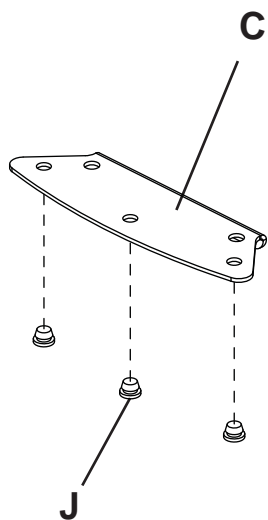

Figure 2.1
- 1** Attach vertical tube (B) to support base (H) using one plastic bushing (AA), one M5 x 55 mm socket screw (R), and M5 nut (S) as shown in detail 1. Tighten M5 x 55 mm socket pin screw (R) using 4 mm allen wrench (X).
- 2** Press three button bumpers (J) into shelf clamp bracket (C) as shown in figure 2.1